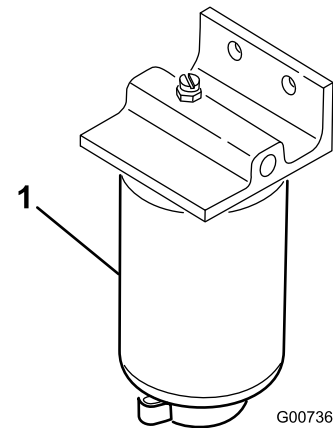

Figure 34
3. Open the drain plug on the fuel filter approximately one turn and drain any accumulated water (Figure 34).